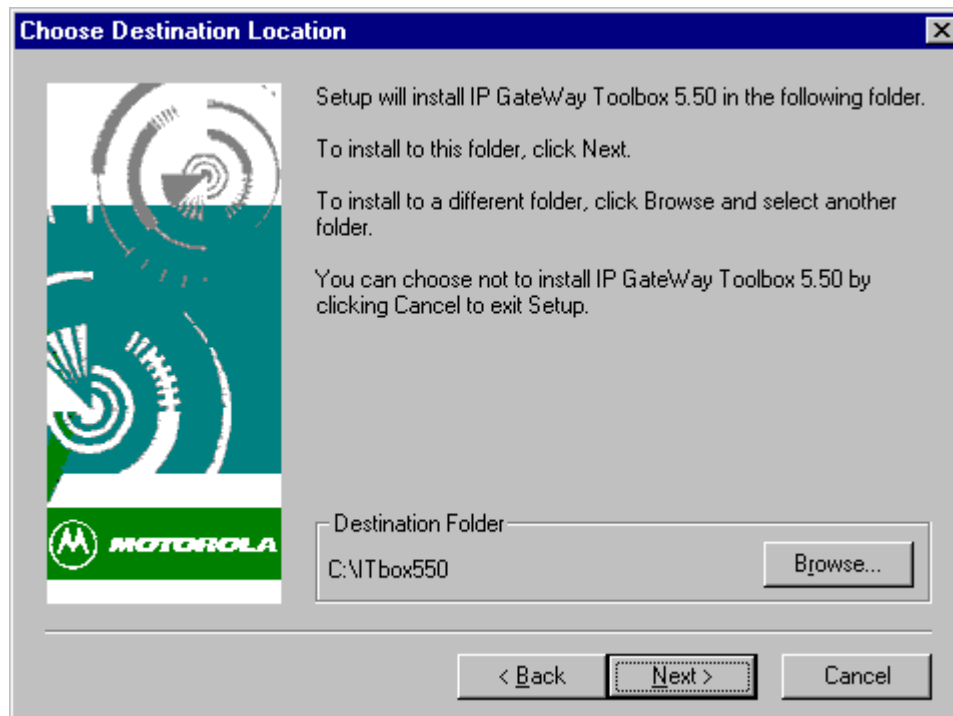

Figure 4-4: Destination Drive and Directory Dialog screen
- The Install Wizard displays the *Choose Destination Location* screen with the default directory path **C:\Itbox550** (see Figure 4-4). If the default directory is acceptable, click **NEXT**. To install the software in a different directory, click **BROWSE** and then specify the pathname of a different folder.